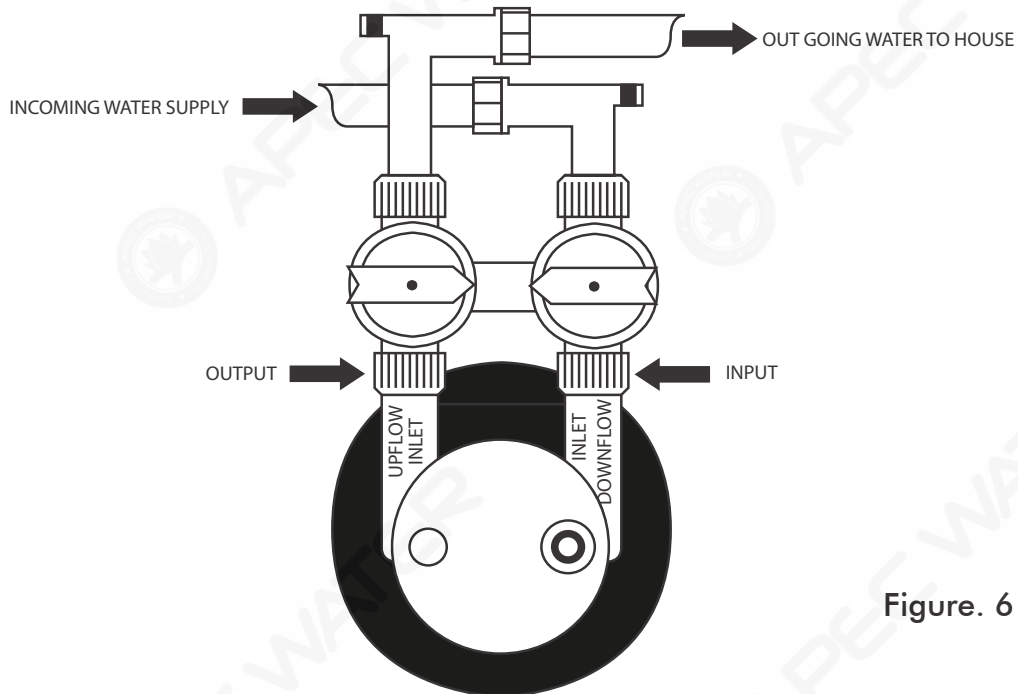

Figure. 6
**Bypass Operation Mode:** Water flows through the Bypass Valve without entering the Green Carbon Conditioner and the water entering the house is untreated. (See Figure 6)